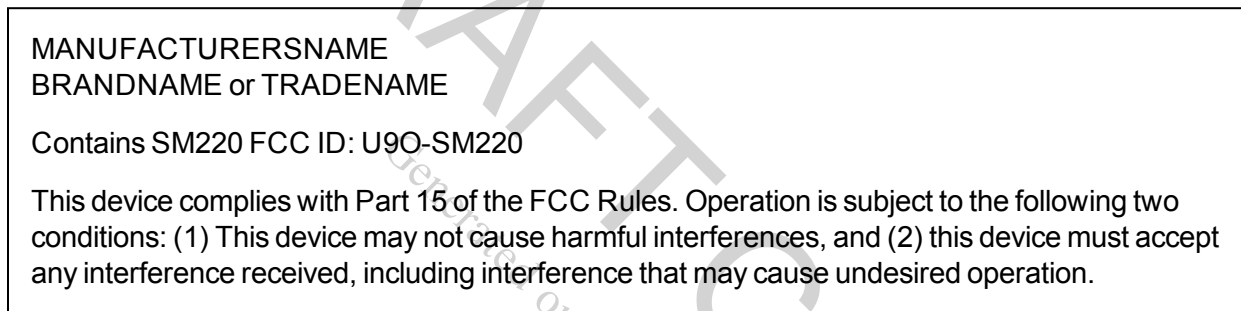

Figure 6: FCC Label
1. The system integrator must place an exterior label on the outside of the final product housing the SM220 Modules. **Figure 6** below shows the contents that must be included on this label.
NOTICE: The OEM must make sure that FCC labeling requirements are met. This includes a clearly visible exterior label on the outside of the final product housing that displays the contents shown in **Figure 6** below.